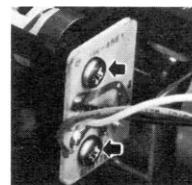

Fig. 32
- 7) Remove 2 screws of the hall IC circuit board. (Refer to Fig. 32)